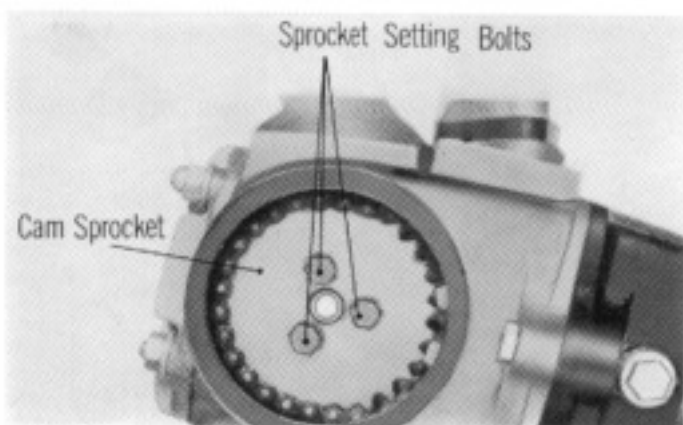

Fig. 14
5. Loosen the three cam sprocket mounting bolts and remove the cam sprocket from the camshaft (Fig. 14).